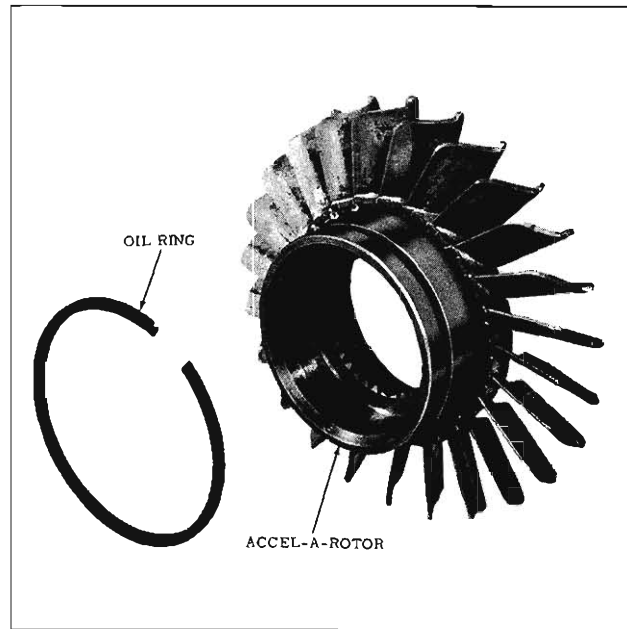

Fig. 6-107 Accel-A-Rotor
2. Install lock type oil ring on Accel-A-Rotor hub, if removed. (Fig. 6-107)